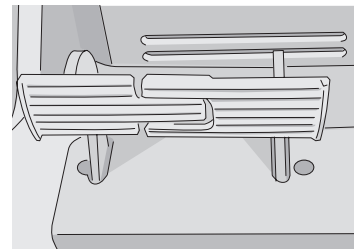

Figure 2-63
3. Step down the crossing part in the middle of the left and right brake pedal, put the brake lock lever (1) to the FREE position, and then release the brake pedal. (Figures 2-63 and 2-64)